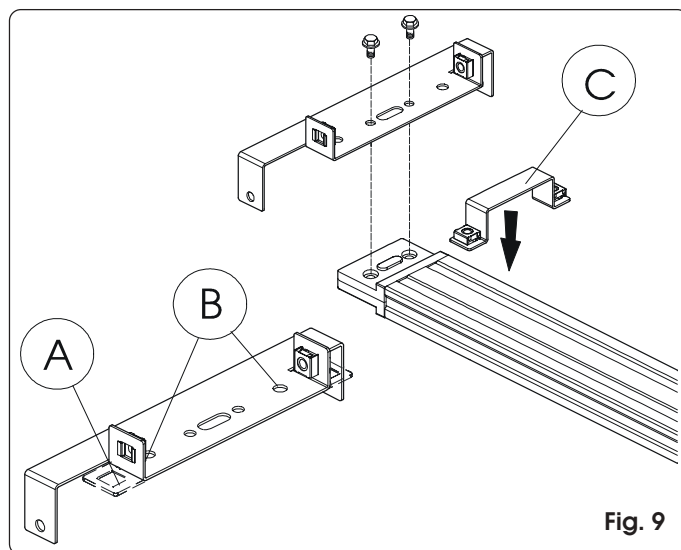

Fig. 9
Fit the rear connection in the special seat on the drive coupling unit (fig. 9).
If the operator has to be installed directly in contact with the ceiling, cut or bend the fixing brackets (fig. 9 ref. A) and, in the latter case, remove the cage nut. For fixing, the special holes are used (fig. 9 ref. B). Prepare a shim of approx. 5 mm for inserting between the rear connection and the ceiling.
- 12) Mark the fixing points on the ceiling, drill (taking care to protect the sliding guide), position the front fixing bracket of the operator (fig. 9 ref. C and fig. 14) and complete guide installation.